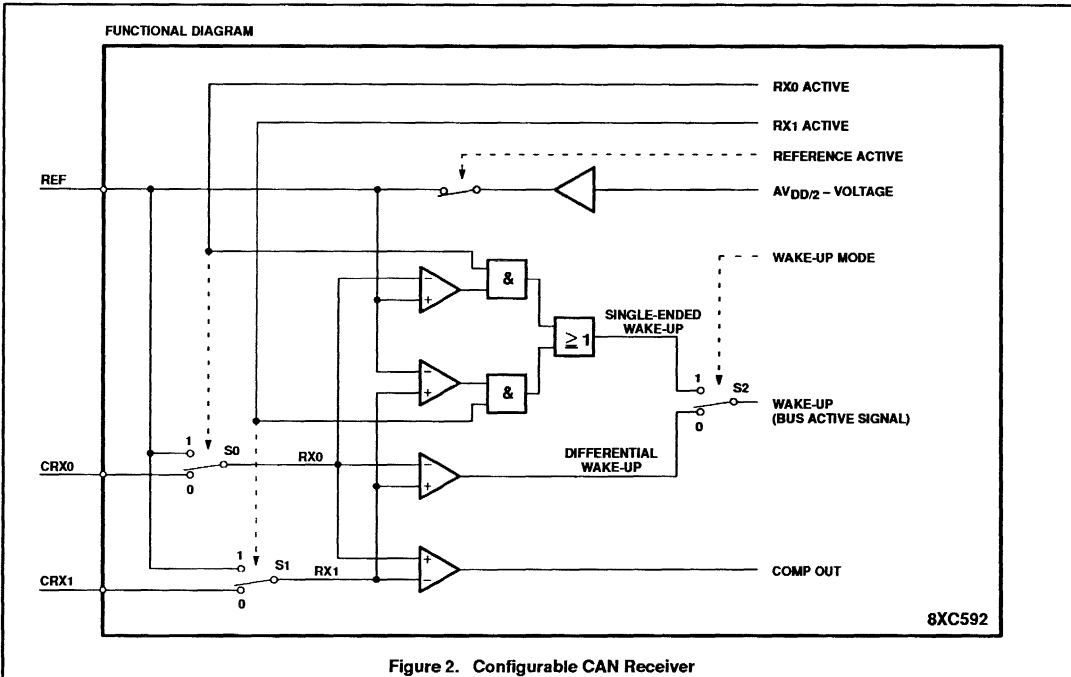

Figure 2. Configurable CAN Receiver
6. The Wake-Up Mode bit should be set at the same time as the Sleep bit. The differential wake up mode is useful if both bus wires are fully functioning; it minimizes the probability of wake ups due to noise. The single ended wake up mode is recommended if a wake up must be possible even if one bus wire is already or may become disturbed (See Figure 2).
7. The RX0/RX1 Active bits, if being read, reflect the status of the respective switches (See Figure 2). It is recommended to change the switches only during the reset state (Reset Request is HIGH).